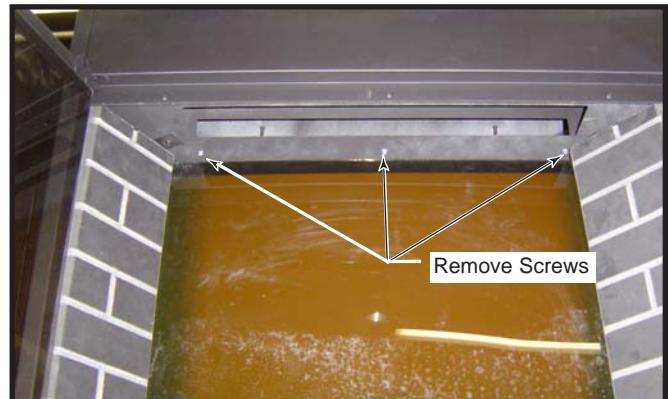

**Fig. 1** Remove screws holding door at top.
3. Remove fixed front panel, or open doors (depending on model). If the model has operable glass or mesh doors, completely remove them from the unit before proceeding. To remove the doors, locate and remove the two (2) screws holding the door at the top. (Fig. 1) Hold the door at all times with one hand to prevent the door from falling when you undo the hinge screws.